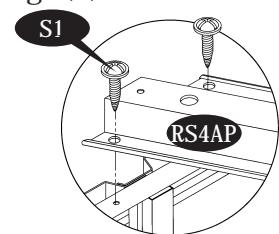

Fig. 1
**12.** Place the Roof Structure (RS4AP) on the top of Roof support and top angle side. Secure with (S1) screws to the top angle and Roof support as shown in Fig. 1,2,3 & 4.